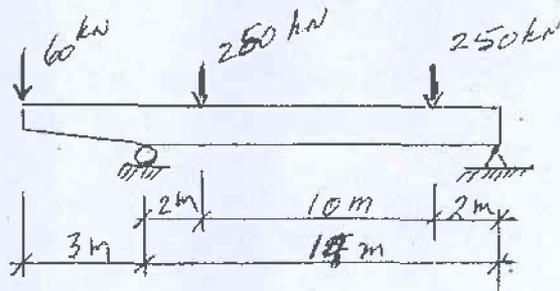

FIGURE 3
7. The prestressed concrete girder in Figure 3 is to be *post-tensioned*.